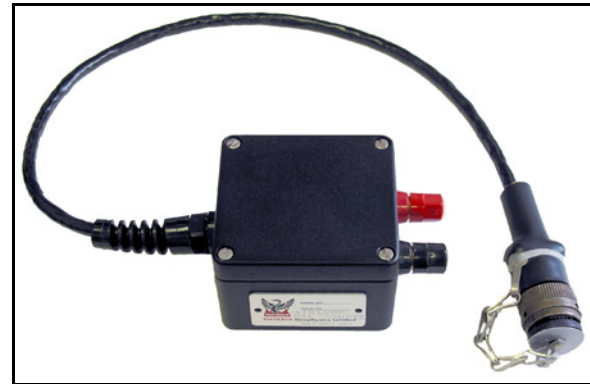

Fig. 1-1: Air-loop CAL Box.
- air-loop "CAL Box" (See Fig. 1-1.)